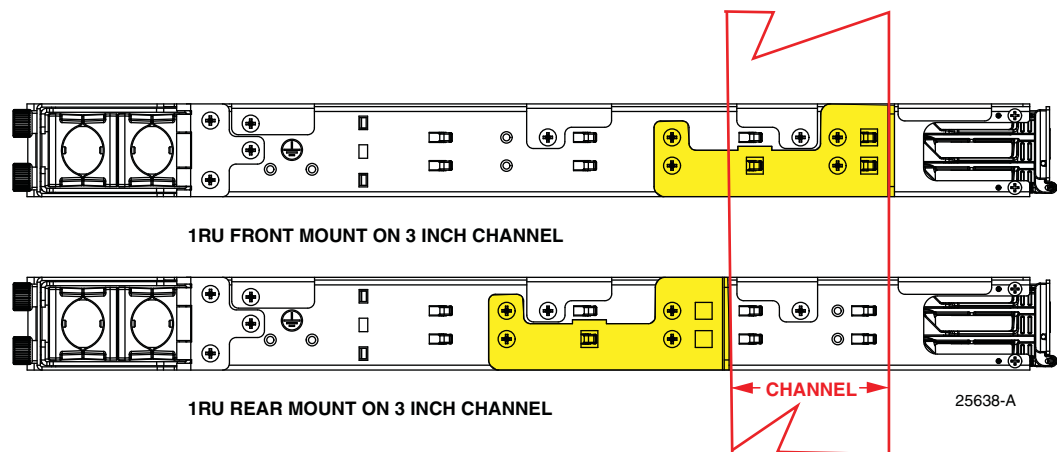

Figure 15. 1RU Mounting Bracket Positions (Front and Rear on 3-Inch Channel)
- Figure 15 for 1RU mounting on 3-inch channel.